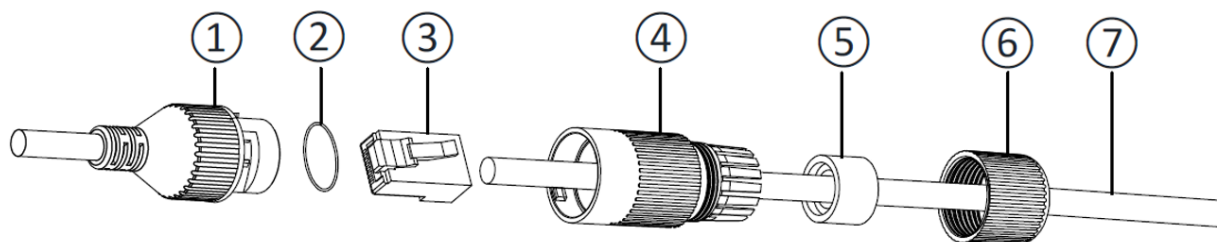
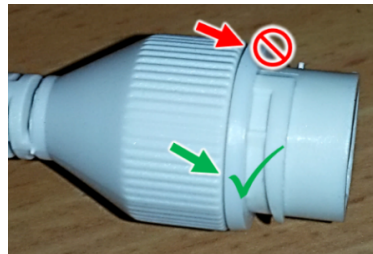

Figure 9. Assembling the Waterproof Cap
Figure 11. Seating the O-type Gasket
2. Seat the O-type gasket (2) onto the end of the camera's network interface socket (1) (see Figure 9). Ensure that the gasket lies flat on the socket, without gaps or twists (see Figure 11).